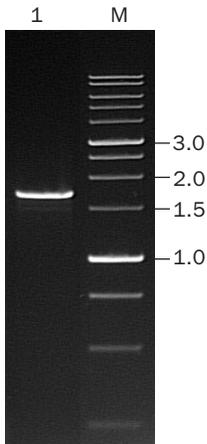

Figure 1. Successful result of a control PCR.
5. Analyze the PCR amplification products by electrophoresis on a 1.0-4.0% (w/v) agarose/EtBr gel. Amplification of the control template generates a 1600 bp product (Fig. 1).